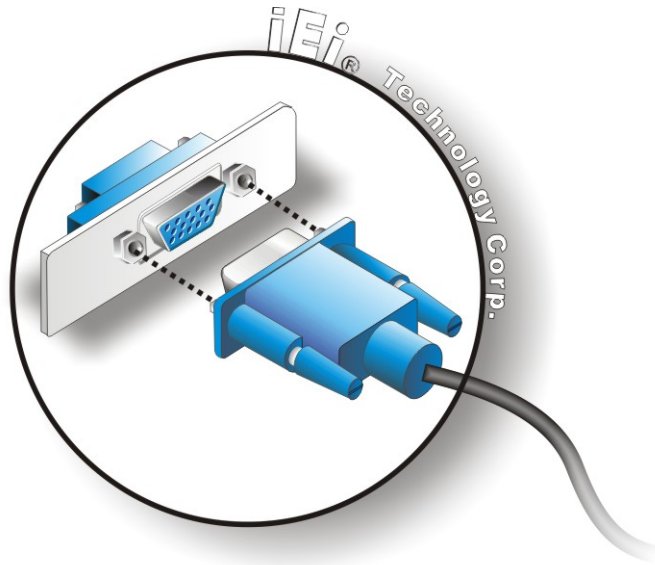

Figure 4-15: VGA Connector
Step 5: Insert the VGA connector Once the connectors are properly aligned with the insert the male connector from the VGA screen into the female connector on the NANO-945GSE3. See Figure 4-15.